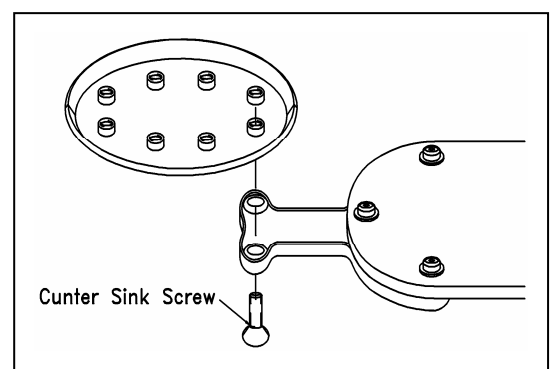

Figure 11
- E1. Obtain countersink screw. See Figure 11